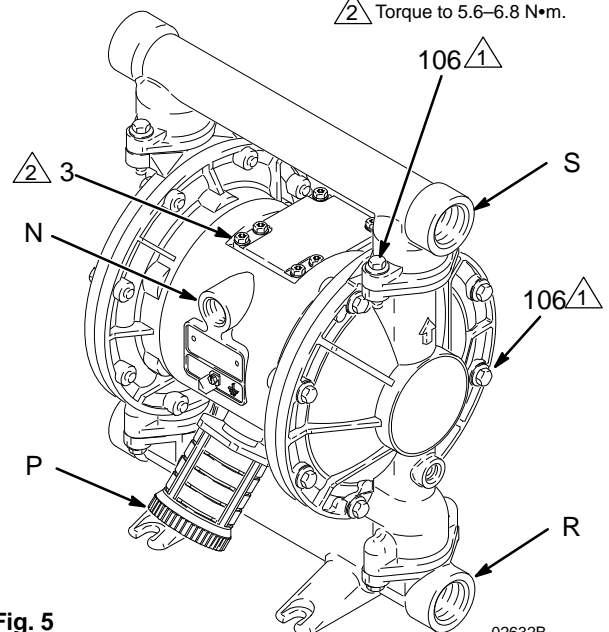

Fig. 5
- a. Install an air regulator (C) and gauge to control the fluid pressure. The fluid outlet pressure will be the same as the setting of the air regulator.
- b. Locate one bleed-type master air valve (B) close to the pump and use it to relieve trapped air. See the **Warning** above. Locate the other master air valve (E) upstream from all air line accessories and use it to isolate them during cleaning and repair.
c. The air line filter (F) removes harmful dirt and moisture from the compressed air supply.
2. Install a grounded, flexible air hose (A) between the accessories and the 1/2 npt(f) pump air inlet (N). See Fig. 5. Use a minimum 9.5 mm ID air hose. Screw an air line quick disconnect coupler (D) onto the end of the air hose (A), and screw the mating fitting into the pump air inlet snugly. Do not connect the coupler (D) to the fitting until you are ready to operate the pump.
1. Use grounded fluid hoses. The pump fluid inlet (R) is 1 in. bspt. On pumps 810.0191, 810.0192, 810.0193, and 810.0194 the pump fluid inlet is 1 in. npt. See Fig. 5. Screw the fluid fitting into the pump inlet securely.
1. Use grounded fluid hoses (L). The pump fluid outlet (S) is 1 in. bspt. On 810.0191, 810.0192, 810.0193, and 810.0194 the fluid outlet port is 1 in. npt. See Fig. 5. Screw the fluid fitting into the pump outlet securely.
**On aluminum pumps,** the fluid inlet and outlet manifolds have threaded ports on both ends. The pump is shipped with a plug installed in one end of each manifold, and the opposite end open. See Fig. 5. To change the orientation of the inlet and/or outlet port, remove the plug from one end of a manifold and install it in the opposite end.